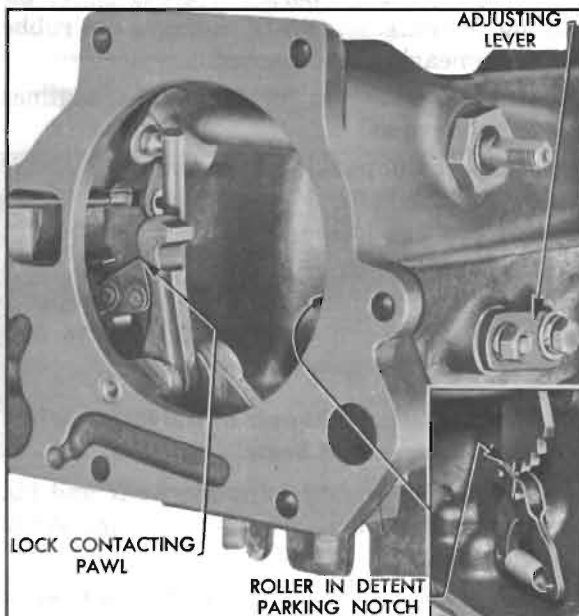

Figure 5-81—Shift Detent Adjustment
7. Temporarily install shift lever on cross shaft and shift parking pawl into Parking position. See figure 5-81.
8. Shift the linkage adjusting lever at slotted end until the pawl lock contacts the parking pawl, then tighten adjusting lever lock bolt, being certain to maintain contact between lock and pawl. See figure 5-81.